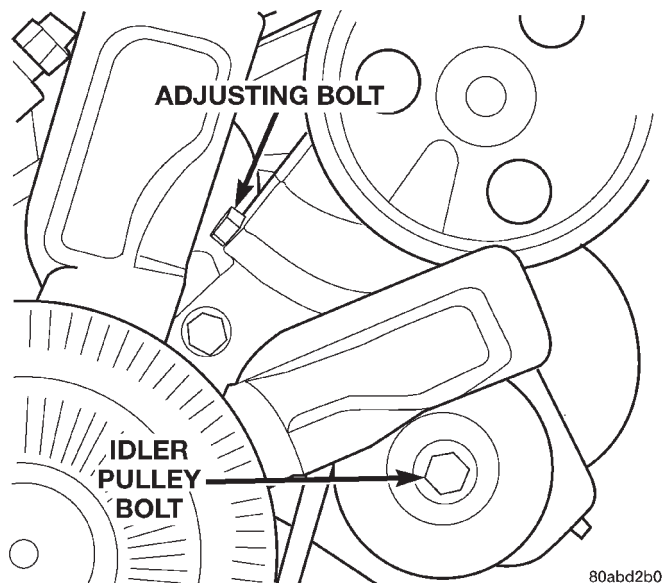

Fig. 33 Power Steering Pump Bracket and Idler Pulley
(3) Loosen idler pulley bolt (Fig. 33).
(4) Adjust tension adjusting bolt (Fig. 33) until reading is within specification.